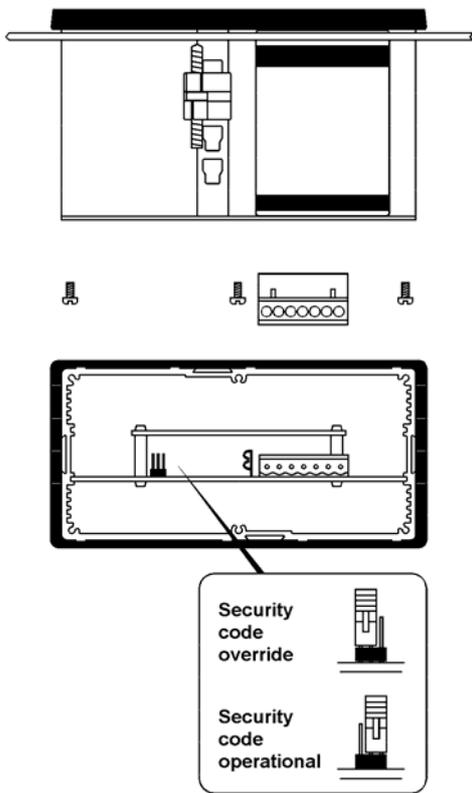

Fig 8 Location of security code override link
To gain access to the security code link, remove the instrument terminal block(s) by gently pulling. Remove the six screws securing the rear panel, and lift off the panel which will reveal the link - see Fig 8.
| Unable to enter programme mode                    | Incorrect security code                                | Enter the correct security code or fit security link in override position. See Fig 8                 |
| Unable to enter programme mode                    | Incorrect security code  | Enter the correct security code or fit security link in override position. See Fig 8            |
- Remove the rear terminal block(s) and the rear panel as shown in Fig 8.